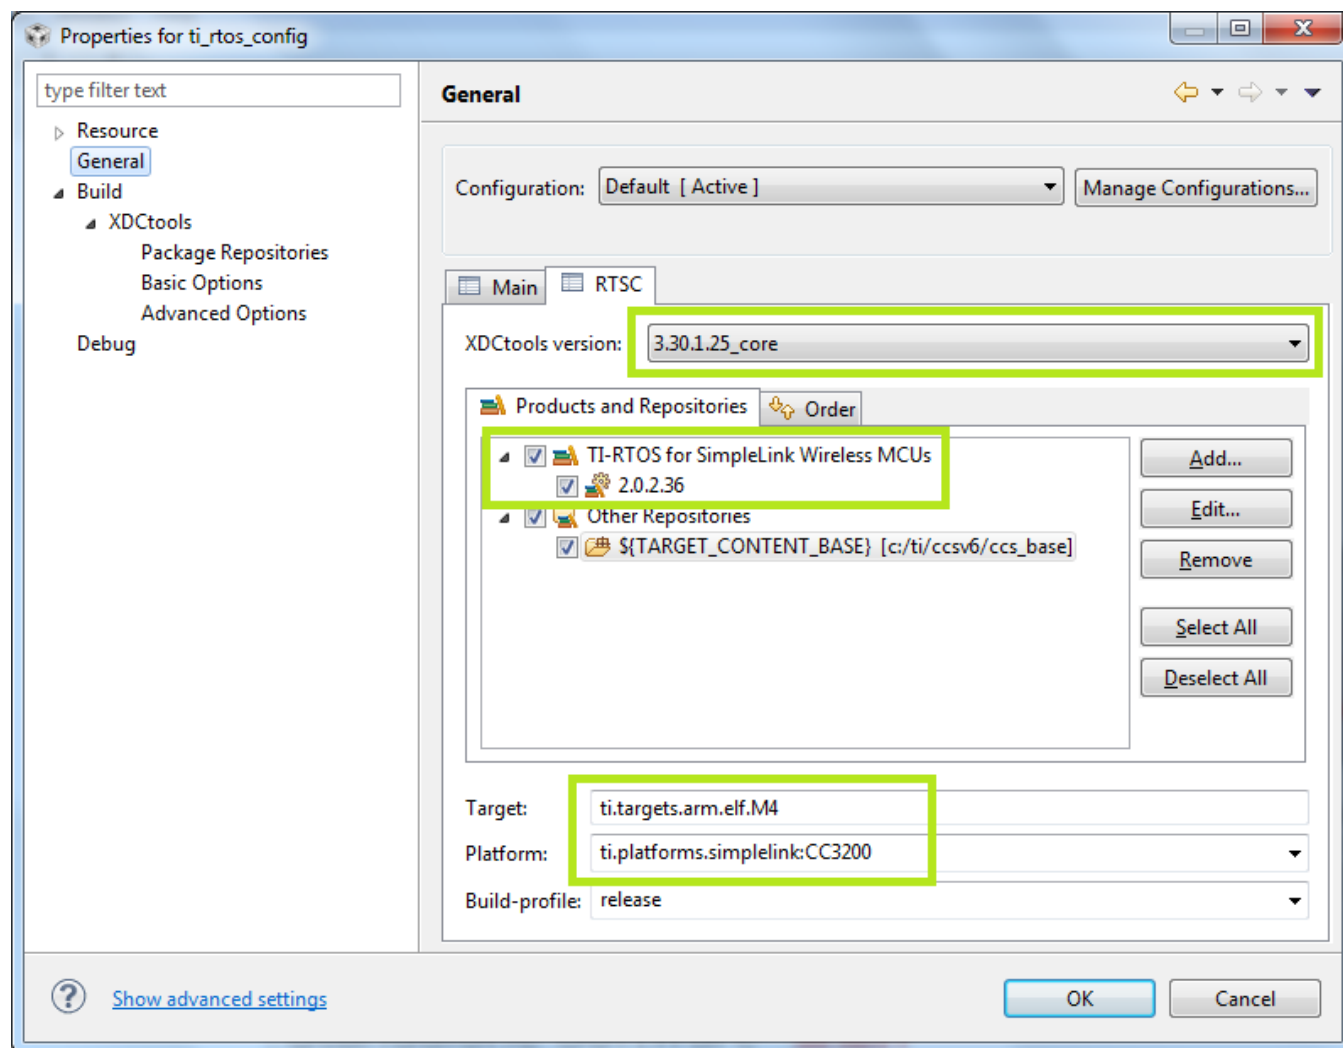

Figure 11. Properties for *ti_rtos_config*
4. Setup the *ti_rtos_config* project configuration as shown in Figure 11. Select the latest versions of XDCtools and TI-RTOS for SimpleLink. Also verify the platform is selected as `ti.platforms.simplelink:CC3200`.